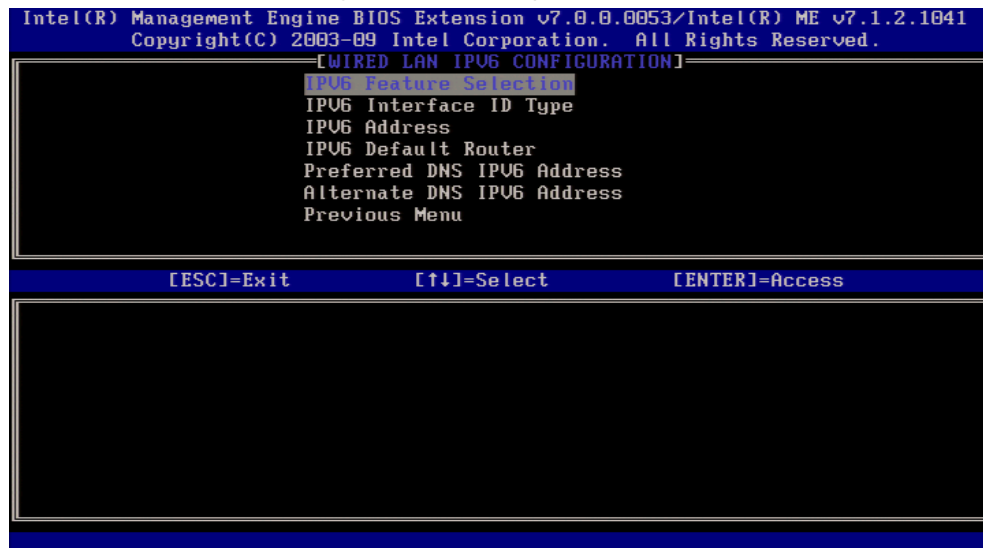

Figure 16. Intel AMT Wired LAN IPv6 Configuration Settings Screen
- g. Wired IPv6 Configuration (Figure 16) .